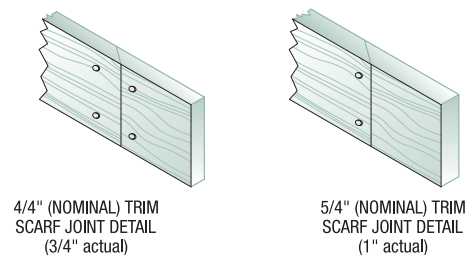

FIG. 2
- When a scarf joint is used with 4/4" trim, two nails are required into solid wood framing on each side of joint. With 5/4" trim, a minimum of two nails must penetrate overlap of trim to solid wood framing. *See Fig. 2.*